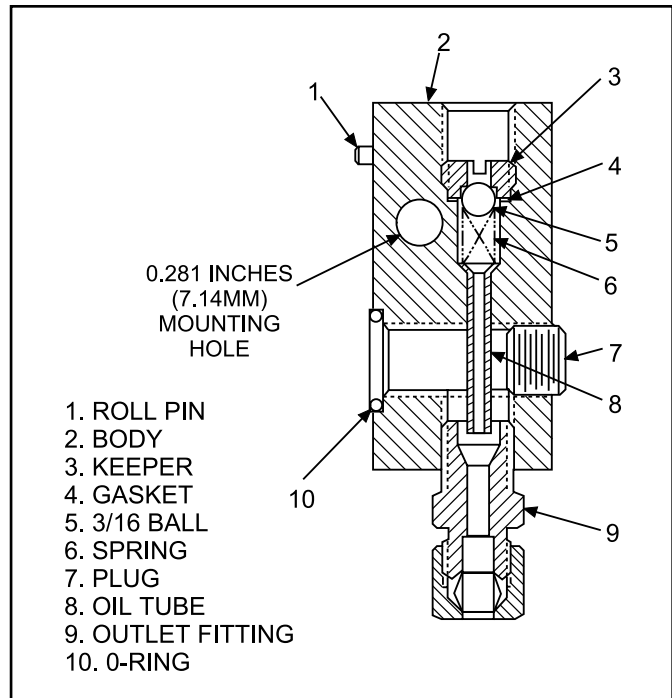

Figure 2-8. Mixing Tee
2.3.3.2 Figure 2-8 shows a sectional view of the mixing tee. For installation, the lube inlet should always be positioned at the top. This allows the oil to flow through oil tube (8) and properly enter outlet fitting (9) where air is mixed with the oil to create the laminar flow in the air/oil delivery tube. Air and lube inlet ports are 1/8-27 NPSF. If mixing tees are to be grouped together, remove plugs (7) from all but the last tee. Roll pin (1) ensures that all tees are aligned while o-ring (10) provides proper sealing for grouped tees.